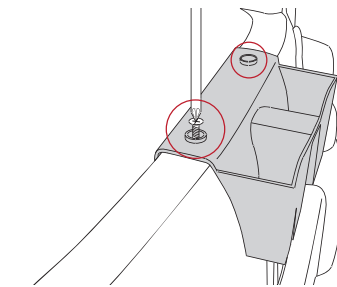

Figure 11
- Hang the spare wheel carrier onto the rear of the vehicle so that the two holes line up with the holes on the body. Screw in two black wide head screws into the two holes to secure the spare wheel carrier. See Figure 11.